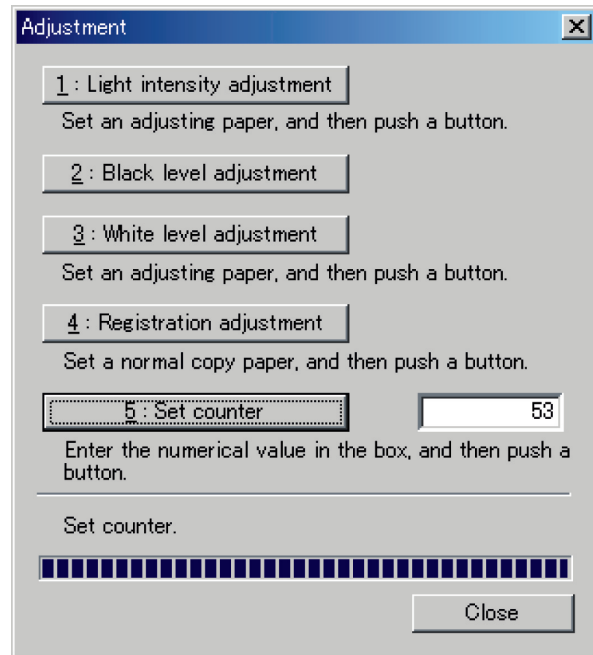

Fig. 5-11
- 4) When it's finished, "Set counter" appears. (See Fig. 5-11)